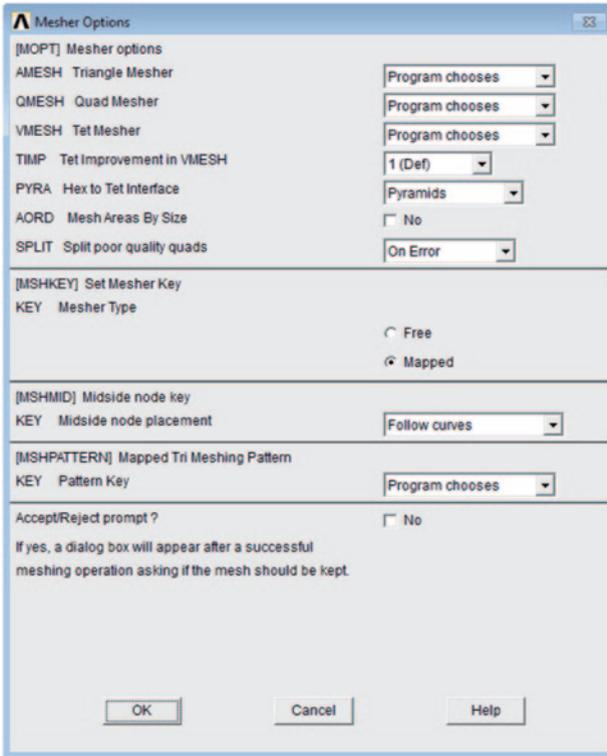

Fig. 9.16 *Mesher Options* dialog box
- In the *Mesher Options* dialog box, click on the **Mapped** radio-button (Fig. 9.16); click on **OK**.